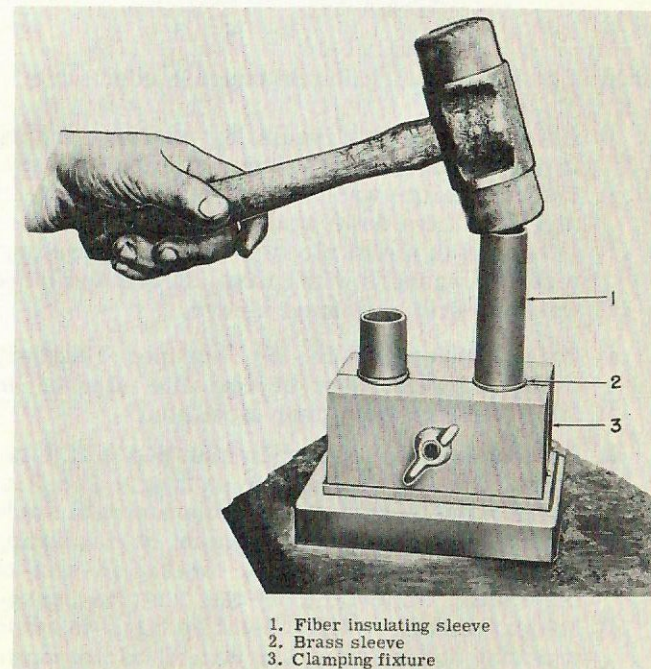

Fig. 10-10
- b. Assemble insulating parts in metal sleeve, as follows: Insert three mica washers (total thickness - 0.015 inch) in bottom of metal sleeve. Clamp metal sleeve in fixture (see Fig. 10-10) to prevent mushrooming of end.